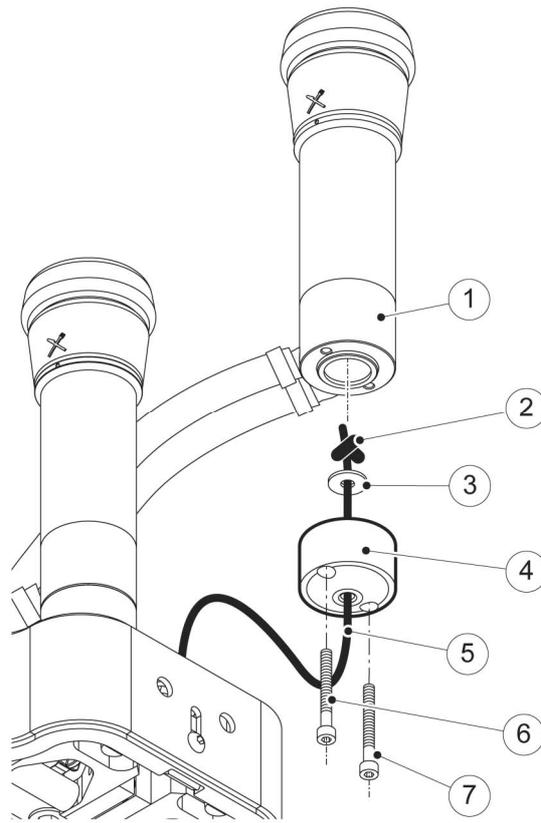

Figure 1: Replace the centring cup
4. Remove the two screws (fig. 1/6) and (7) and the centering cup (4) from the milk collector (1).
5. Untie (2) the cup cord (5) at the centering cup.